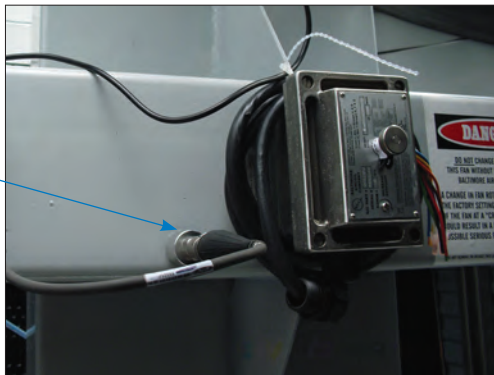

Figure 10. Accelerometer Location - Belt Drive
- Attach the accelerometer (provided by others) onto the mechanical support as shown in **Figure 10**. The accelerometer should be located away from the center of the web of the mechanical support, such that the center line of the accelerometer is about 1 inch from the upper or lower edge, as shown.